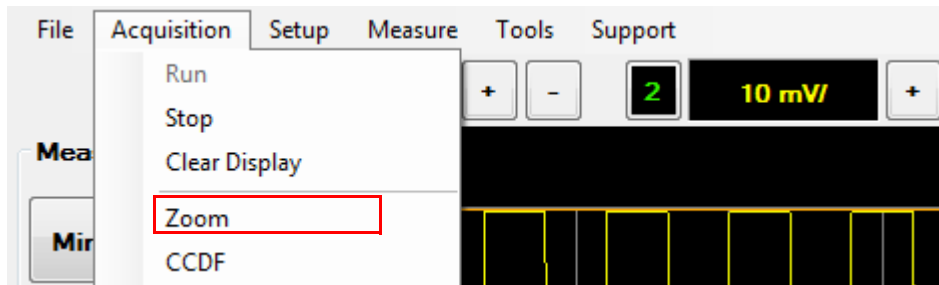

Figure 2-77 Zoom selection in the Acquisition menu
- 1 Select **Acquisition > Zoom** on the toolbar as shown in Figure 2-77.